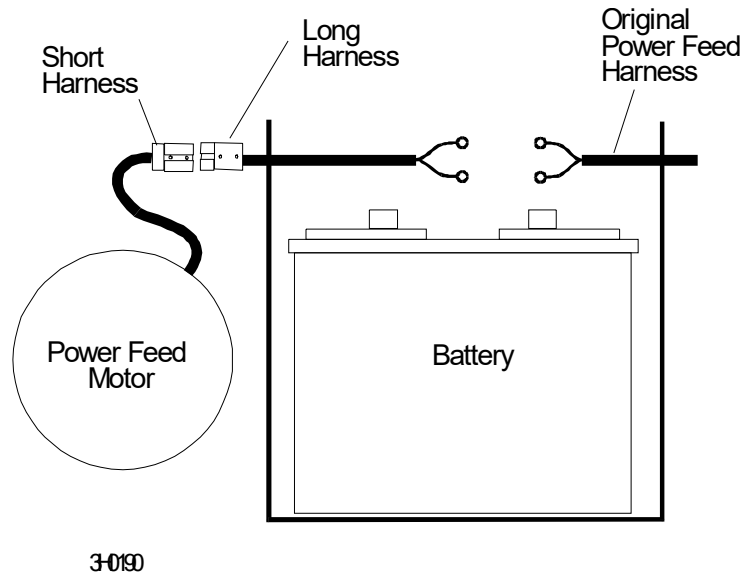

FIG. 1-7
See Figure 1-7.
7. Replace the motor cover and screws so that the harness is positioned at the top left of the motor. **See Figure 1-7.**